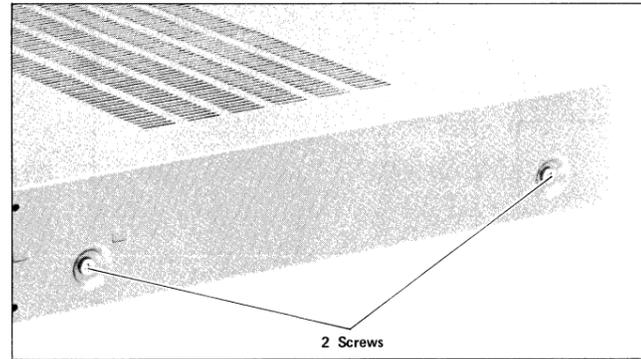

Figure 3-1
1. Remove the 4 screws retaining the cabinet at the right and left surfaces. (Refer to Figure 3-1)
3. Giving a force to the bottom of cabinet, hold it up and remove. (Refer to Figure 3-1)